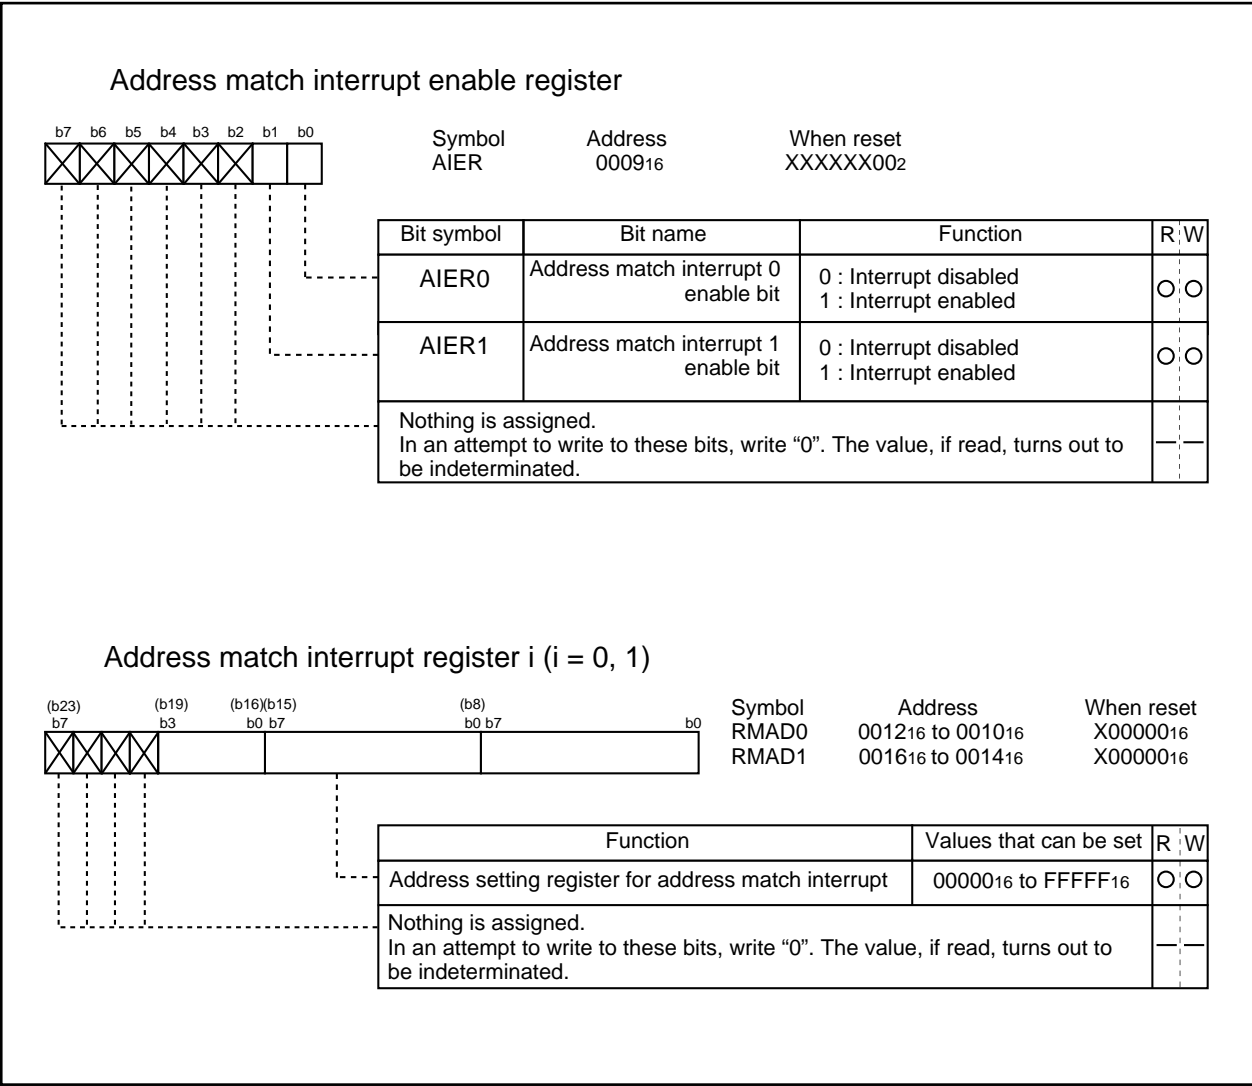

Figure 2.7.12 Address match interrupt-related registers
An address match interrupt is generated when the address match interrupt address register contents match the program counter value. Two address match interrupts can be set, each of which can be enabled and disabled by an address match interrupt enable bit. Address match interrupts are not affected by the interrupt enable flag (I flag) and processor interrupt priority level (IPL). The value of the program counter (PC) for an address match interrupt varies depending on the instruction being executed. Figure 2.7.12 shows the address match interrupt-related registers.